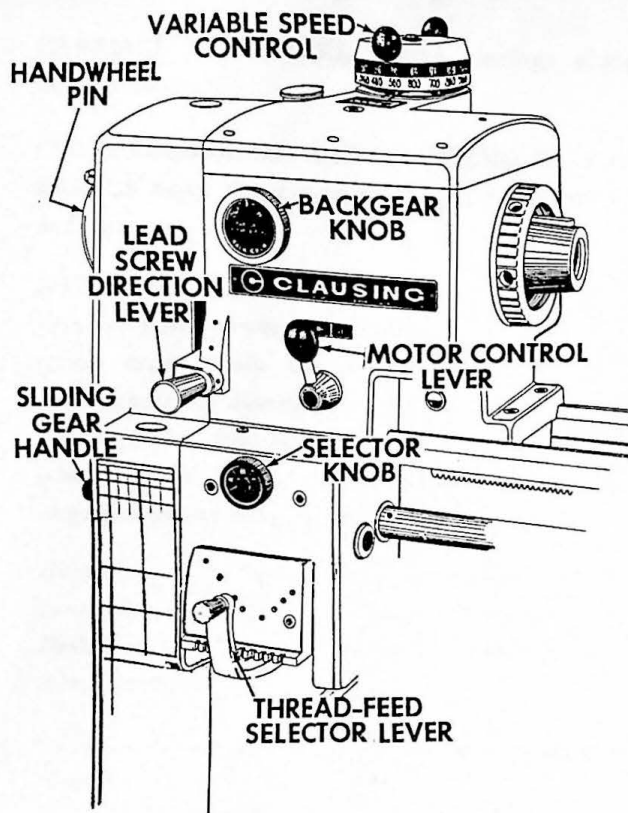

Figure 7
MOTOR CONTROL LEVER located on front of headstock controls rotation of lathe spindle. It has three positions -- REVERSE, OFF, and FORWARD -- refer to figure 7.
See figure 7 for the location of the controls described below. Their positions for thread or feed selected are shown on chart.
- A. Move thread-feed selector handle to the number position indicated on chart -- refer to figure 7.